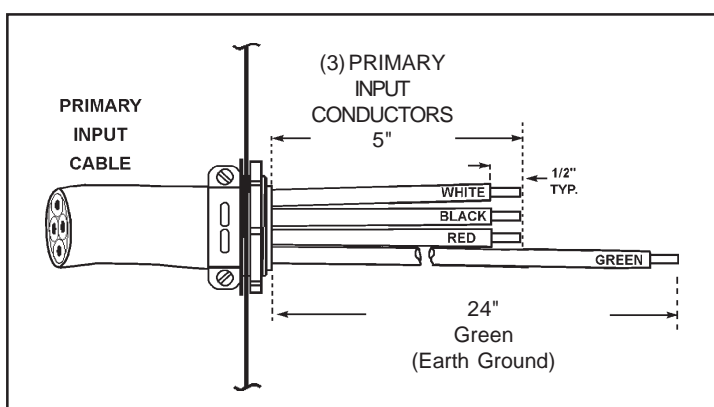

Figure 3-1 Recommended Cable Strip Lengths
2. Remove the top cover. Identify primary power input connection block, chassis ground lug on the fan shroud frame, and primary input terminal board. Refer to Figures 3-1 and 3-2.